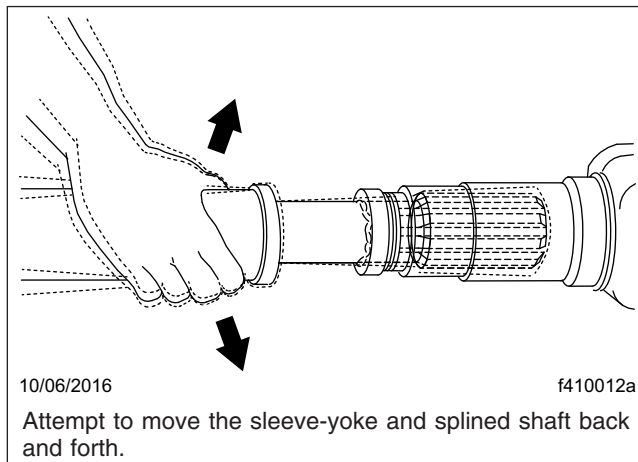

Fig. 4, Slip Joint Spline Wear Checking
6. Check slip joints for spline wear by moving the sleeve-yoke and splined shaft back and forth. See **Fig. 4**. If the slip joint can be twisted in a